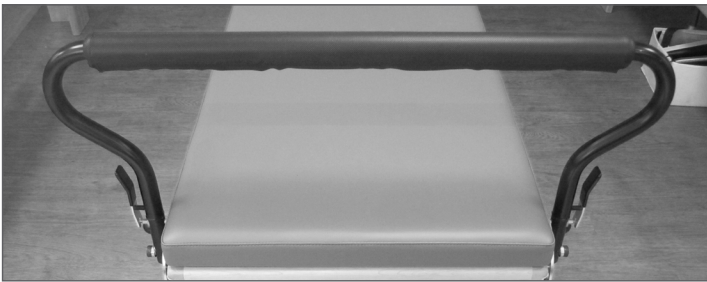
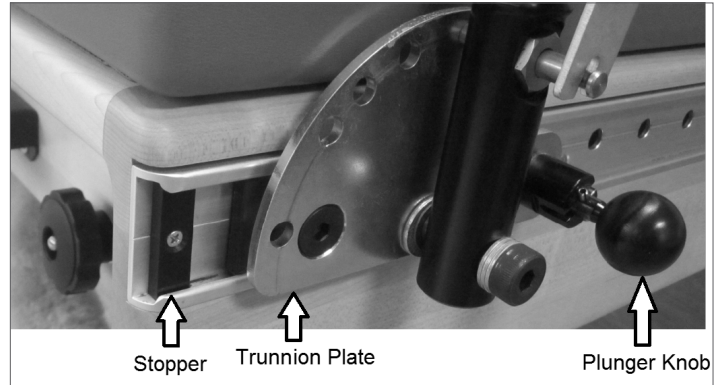

Figure 2
Figure 3
1. Standing at the foot side of the Reformer, raise the footbar to the highest position on the Trunnion Plate as shown in Figure 2 and Figure 3.
3. Using the #2 Phillips screwdriver, remove the Phillips screw from the black plastic stoppers on each side and slide out the stopper from the track. These stoppers are found at the foot end of the track on either side of the Reformer. Set the screws and stoppers aside. See Figure 3
7. Reattach the footbar assembly to the Reformer by sliding each side of the footbar assembly back into the tracks. Remember to keep the footbar aligned so the seam in the footbar cover faces the foot side of the reformer when installed. Next reattach the two stoppers using the screws and screwdriver. Refer back to Figure 3.